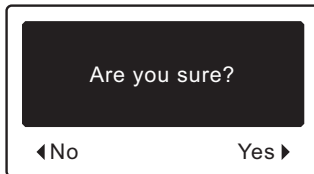

FIG. 79
4. Press the SELECT (O) button. The screen shown in Figure 79 will appear.
*Water remaining before the next recharge. **FIG. 79**